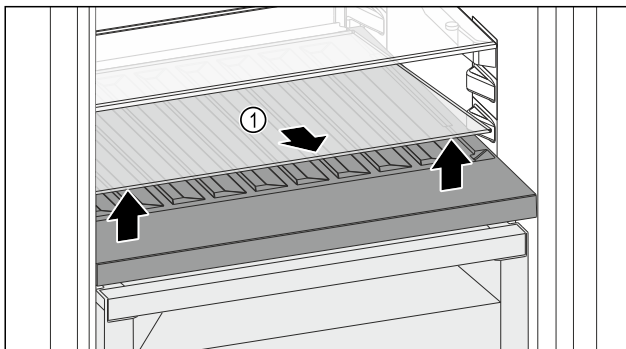

Fig. 162
- ▶ Lift the glass shelf Fig. 162 (1) at the front and remove.
- ▶ Store the glass shelf Fig. 162 (1) in a safe place outside the appliance.
- ▶ Insert the glass shelf (2) under the variable bottle rack.